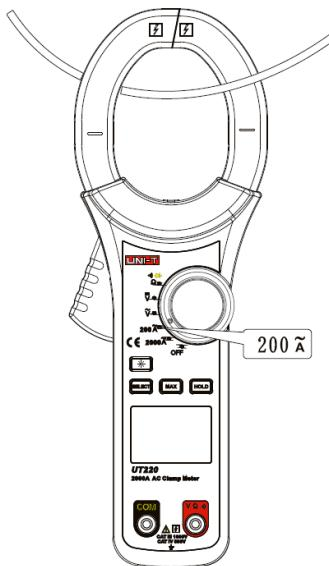

Figura 9
7. MEDIDA DE CORRENTE AC 200A (200~) (VER FIGURA 9)